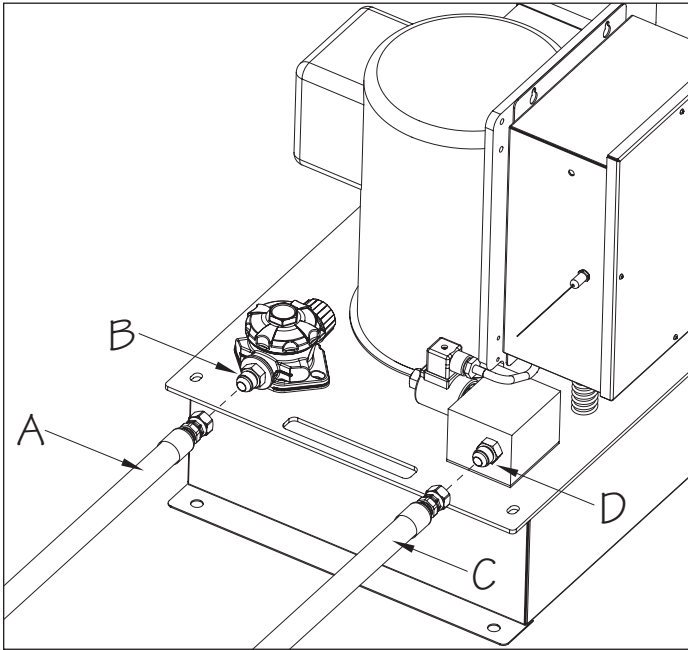

Fig. 28
Attaching the Hydraulic Run Hoses to the power unit is next. Remove the caps on the ports of the power unit. Attach the Low-Pressure Hose (A), hose with the red tape wrapped around the end, to the fitting attached to the Fill Cap (B). Attach the High Pressure-Hose (C) to the fitting on the Manifold Block (D). Tighten the hoses firmly (Fig. 28).